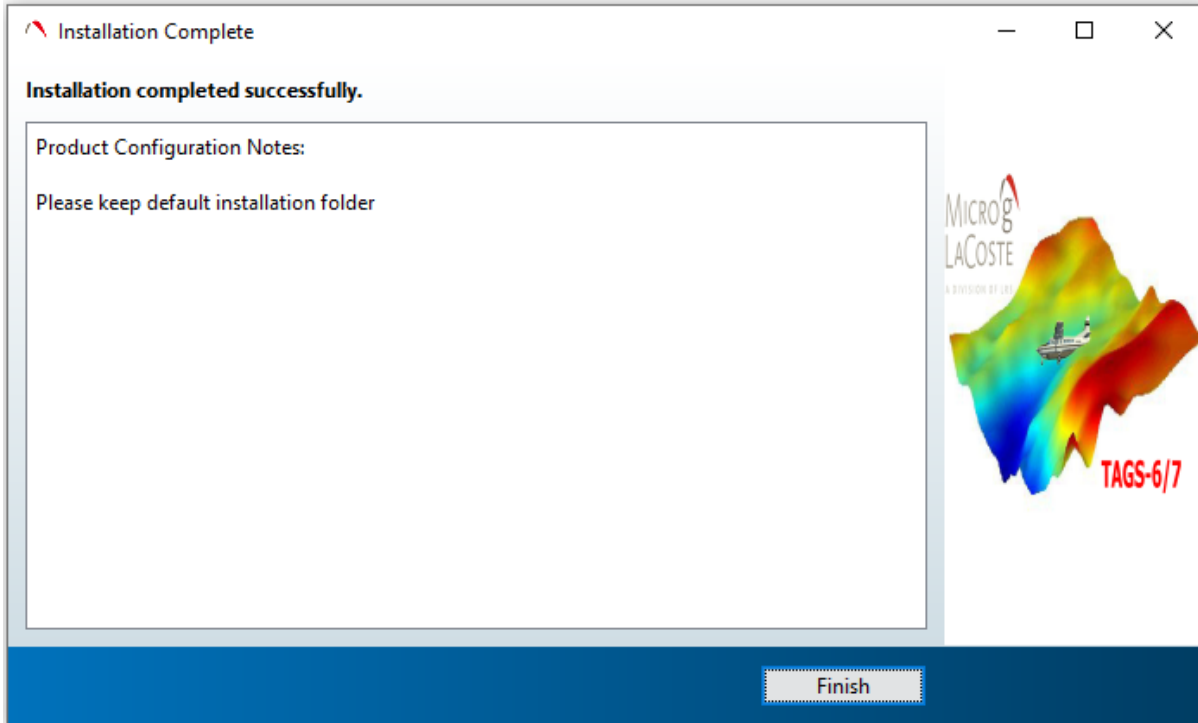

Figure 2-8 Installation Complete Dialog
- An **Installation Complete** dialog (Figure 2-8) displays when the required software was successfully installed.